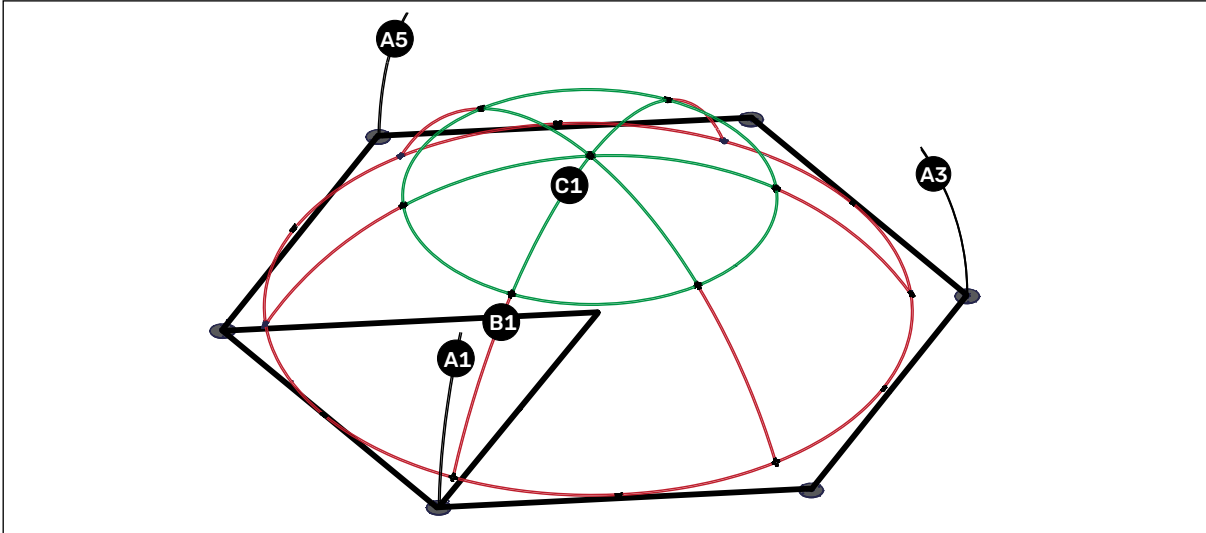
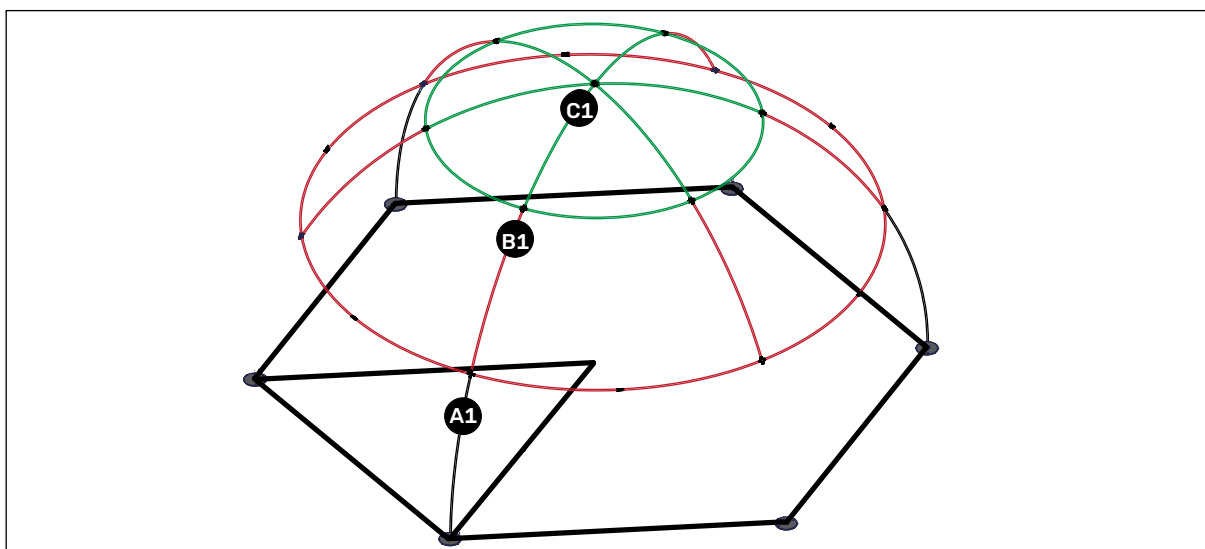

Fig. 27. The first step of assembling the C-layer: Attaching three vertical poles to the feet of the ground structure.
Fig. 29. Attaching the upper structure to the three A-layer poles.
1. Slide the three A-poles labeled A1, A3 and A5 with the labeled end upwards into the feet's tubes and tighten the finger screws lightly. Ensure that you position the poles corresponding to those already in place as shown in Fig. 27 and Fig. 29